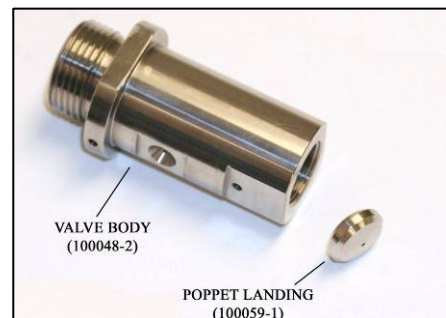

Figure 2
7. Remove the Poppet Landing (100059-1) from the Valve Body. If tapping the body does not cause the seat to fall out, insert a straightened paperclip in the hole in the seat and gently loosen. Discard the Landing and O-Ring. **See Figure 2.**